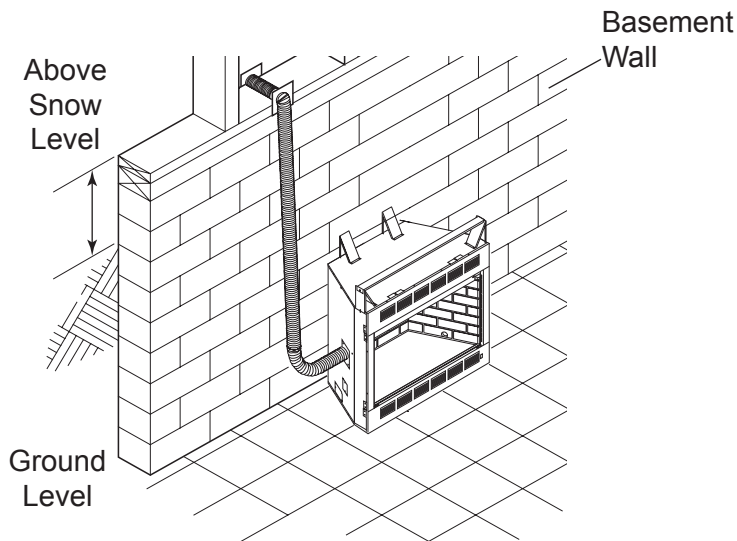

Figure 40 - Basement Installation
6. Avoid extremely long runs and numerous turns in the duct leading from the fireplace to the combustion air assembly. These conditions increase the resistance to the free flow of air through the duct. See Figures 40 through 43 for methods of installing the outside air for combustion assemblies.